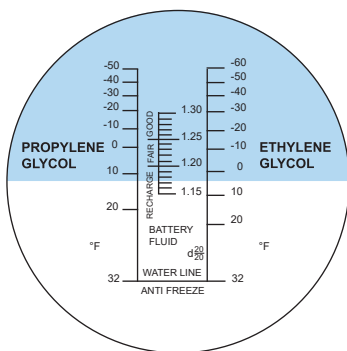

Fig 2.
7. The boundary line indicates the freezing point of Propylene Glycol on the left scale or the freezing point of Ethylene Glycol on the right scale of the particular concentrations measured. If the scale solution is battery acid it will indicate the specific gravity of this concentration on the middle scale. See Fig 2.